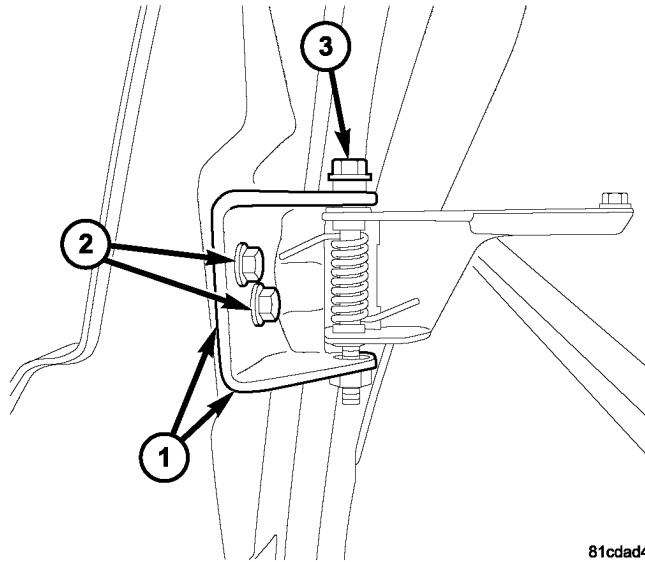

Fig. 5 CENTER HINGE AND ADJUSTER
7. Open door to mid-point of travel. Note the vertical jack screw as shown in (Fig. 5).
8. Adjustments of the sliding door height at the C-pillar can be accomplished by turning the center hinge jack screw. Turn the bolt clockwise to raise door and counterclockwise to lower door (Fig. 5).